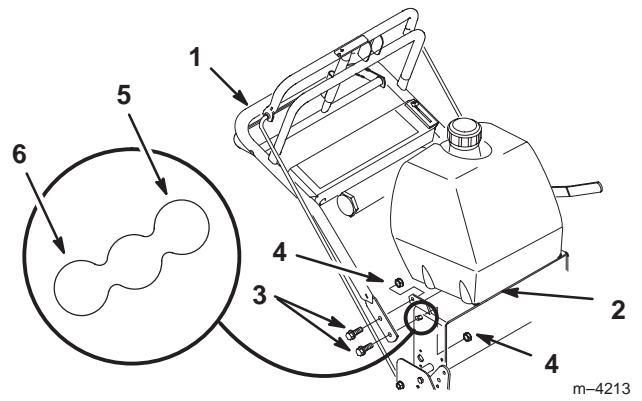

Figure 3
1. Position handle outside frame and align upper handle mounting holes with desired mounting holes in rear frame. Select high, medium or low according to operators height (Fig. 3).
2. Secure each side with 2 bolts (3/8 x 1 in.) and 2 locknuts (3/8 in.) (Fig. 3).